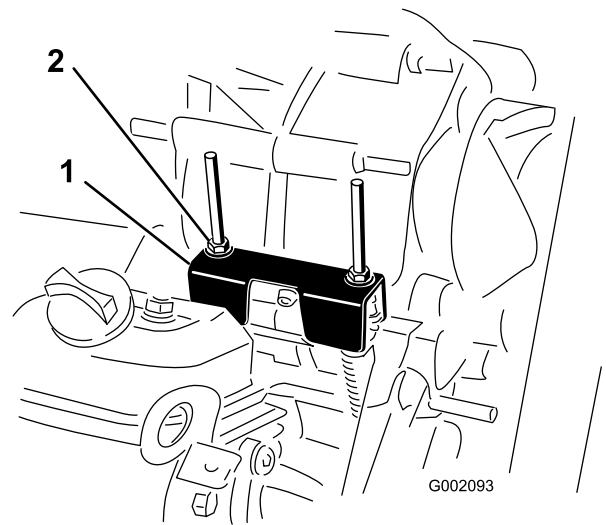

Figure 67
3. Rotate one of the locknuts (Figure 67) to achieve a 0.762 to 1.524 mm (0.030 to 0.060 inch) gap between the bottom of the nut/washer and the neutral bracket.
When performing routine maintenance and/or engine diagnostics, the transaxle must be shifted into neutral (Figure 67). The vehicle has a neutral position on the shift lever, which controls the neutral in the transaxle. The following steps should be taken to make sure that the neutral shift lever operates the transaxle neutral correctly:
2. Ensure that the neutral bracket is in the neutral position (level to the cable mounting bracket located below the shift bracket) by turning the driven clutch (Figure 67).